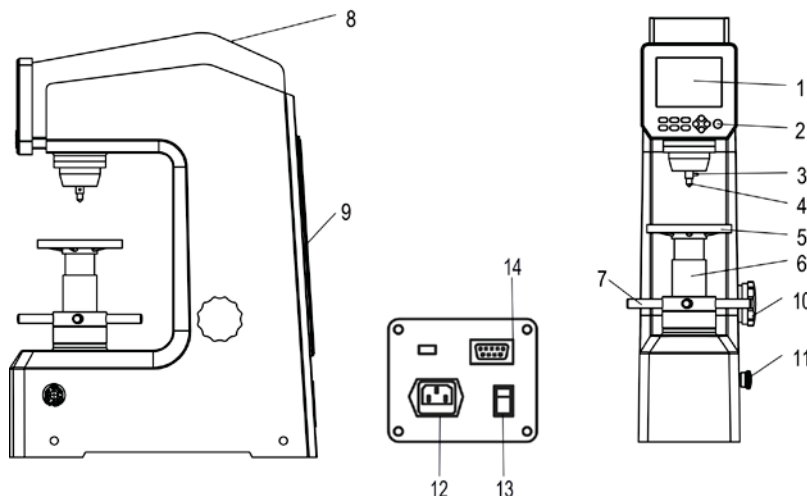

Fig 3-2
3.4.2 Take the weight group out of the accessories kit and clean them thoroughly. Rotate the Load-Change Hand Wheel (10) to the place number 588, and then take the Hanging Rod (16) from the Back Cover and insert it in the hole of the Weight A (20), fasten the M10 Nut (21) at the tail of the Hanging Rod. Hook the Hanging Rod in the ear of the tail of the Lever (15). And then place the weight B (19) and Weight C (18) separately on two Fork-Shaped Frames (17). At this point, rotate the Load-Change Hand Wheel clockwise for a whole cycle and observe the round pegs on both sides of the Weight and see if they are properly placed in the groove of the Fork-Shaped Frame. The Weights should not touch the inside wall of the instrument body (See Fig 3-2, 3-3).